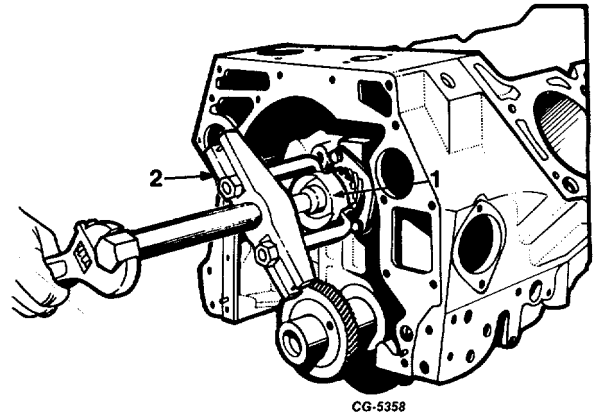

Fig. 65
c. Remove fuel pump cam using SE1368 Puller and SE-1368-3 Fingers, Figure 65.